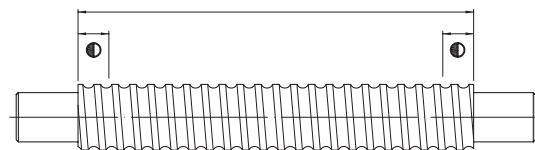

Fig. 3.6 Hardening area on a ballscrew shaft
- g) During the hardening of the shaft, the two or three steps immediately adjacent to the bearing ends on both sides will be of lower hardness, which may allow modifications to the shanks. In the HIWIN diagrams, these areas are marked with the symbol (see Fig. 3.6). If these areas have special requirements, please contact HIWIN technicians.